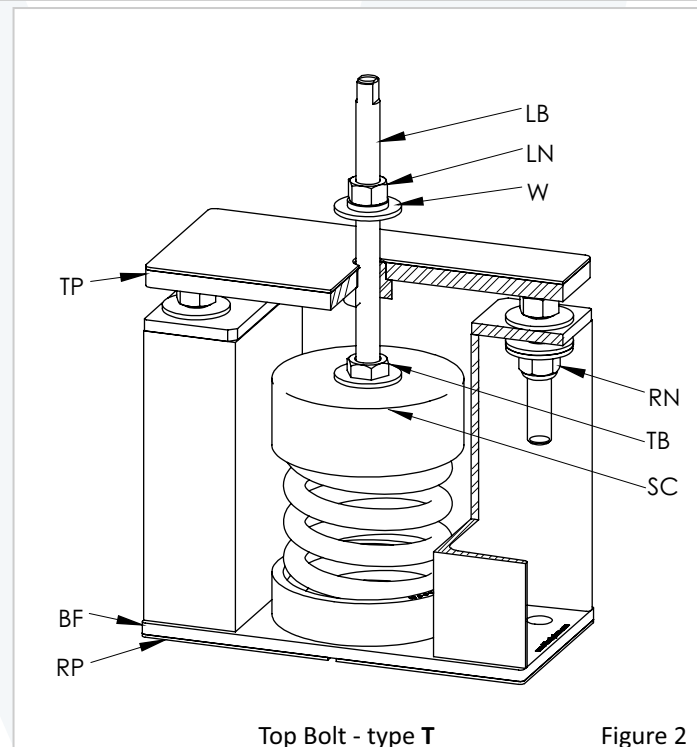

Figure 2
- 5) Screw the leveling bolts (LB) into the center threaded hole of the top plate (TP) of each spring mount. Turn the leveling bolts clockwise until they sit inside the thrust bolts' (TB) pockets, as shown in Figure 2.
- 8) Proceed to fine-level each spring mount by turning the levelling bolt (LB), as shown in Figure 2.
- 9) After the equipment's leveling is complete, run down the lock nut (LN) with washers (W) and tighten them onto the equipment's base, as shown in Figure 2.